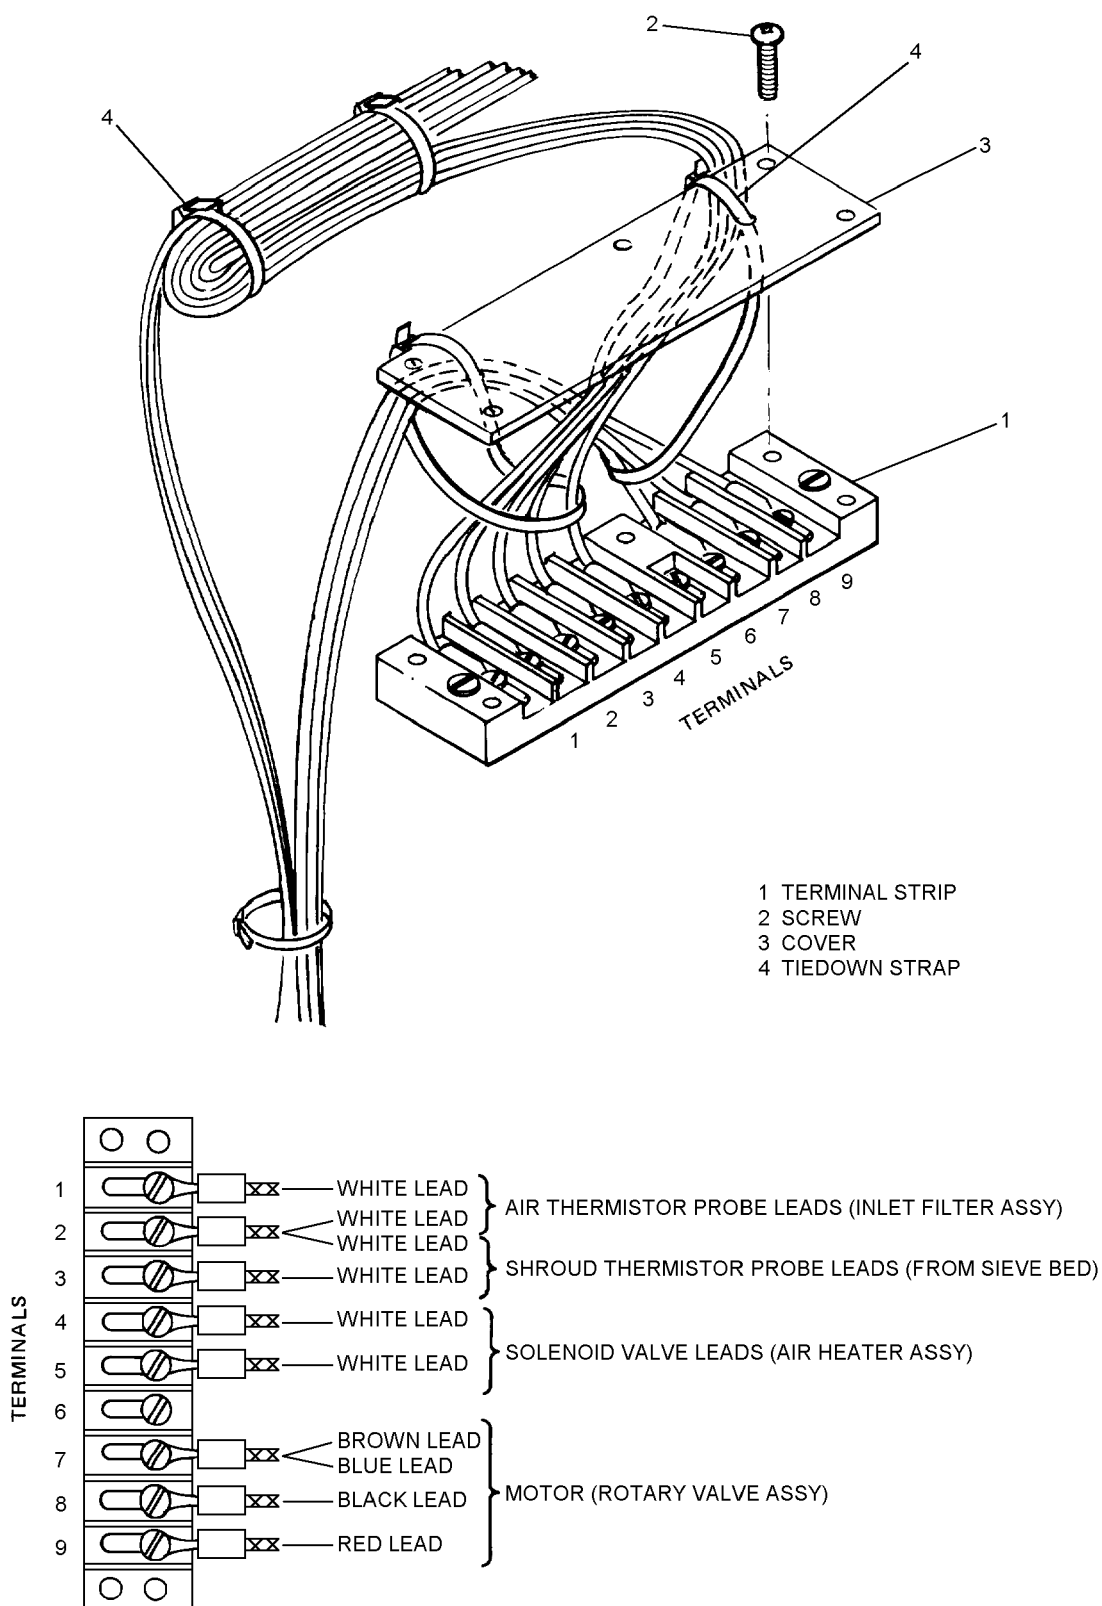

Figure 4-8. Terminal Strip Wiring
6. Carefully remove RTV adhesive covering screws securing leads of three thermistor wires at terminals 1 and 2 (figure 4-8) and remove screws. Place blade of screwdriver flat under terminal lead and carefully press down and back until lead is free of terminal board. Repeat for all leads to be removed. Carefully remove remaining RTV adhesive.
- At the test lead wire (P/N ALB24RED) to terminal (1) and (2) of terminal strip (figure 4-8) and observe HEATER gages (M2) and (M3) of test set.
- If jump across terminals (1) and (2) does not cause (M2) and (M3) to go to zero, replace electronics box.
- If jump across terminals (1) and (2) causes (M2) and (M3) to go to zero, perform the following:
<p align="center">NOTE</p> <p align="center">CONC ON/OFF switch (S1) must be in ON position in order to take readings. Place S1 in OFF position after readings are obtained.</p> <ol style="list-style-type: none"> <li>Turn on 28 Vdc POWER supply and set CONC circuit breaker (CB1) test set POWER to ON position.</li> <li>Attach test lead wire (P/N ALB24RED) to terminals (1) and (2) of terminal strip (figure 4-8) and observe HEATER gages (DS2) and (DS3) of test set.</li> <li>If jump across terminals (1) and (2) does not cause (DS4) and (DS5) to go off, replace electronics box.</li> <li>If jump across terminals (1) and (2) causes (DS4) and (DS5) to go off, perform the following: <ol style="list-style-type: none"> <li>Check thermistor (RT1) wires for broken wire, defective terminal connection or other open circuit using Fluke 77/AN multimeter.</li> <li>Normal resistance of the thermistor (RT1) is 6000 to 16,000 ohms depending on temperature. If reading on multimeter is between 6000 to 16,000 ohms, locate and repair defective wires.</li> <li>Reassemble concentrator and continue Bench Test.</li> </ol> </li> </ol>